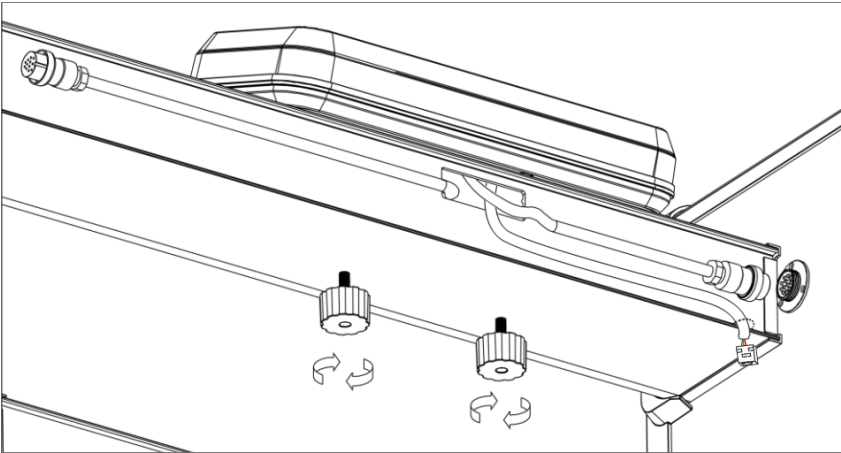

Figure 3-8
Step 7: Connect the host and the front cross beam with bolts, as shown in the figure 3-8 below (if the rain cover is optional, it can be installed together).